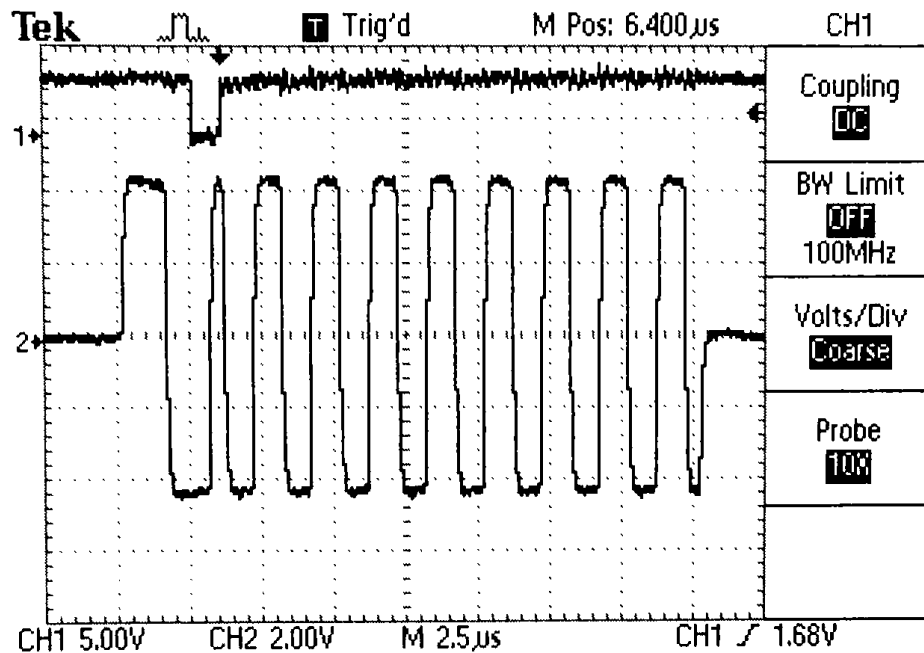
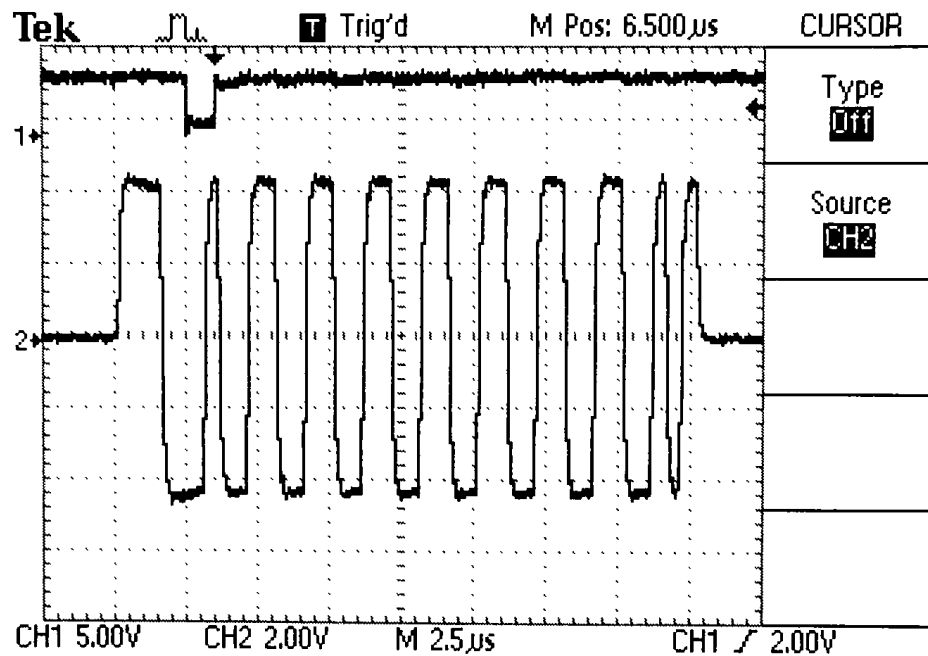

Figure 455-11: No Error Injection
Figure 455-13: Invalid Parity
Follow the steps below to verify that there is no error in the injection transmission. Refer to figure 455-11
3. Verify that the parity bit is the opposite of Figure 455-11 (no error injection transmission). Refer to Figure 455-13 for an example of an invalid parity.